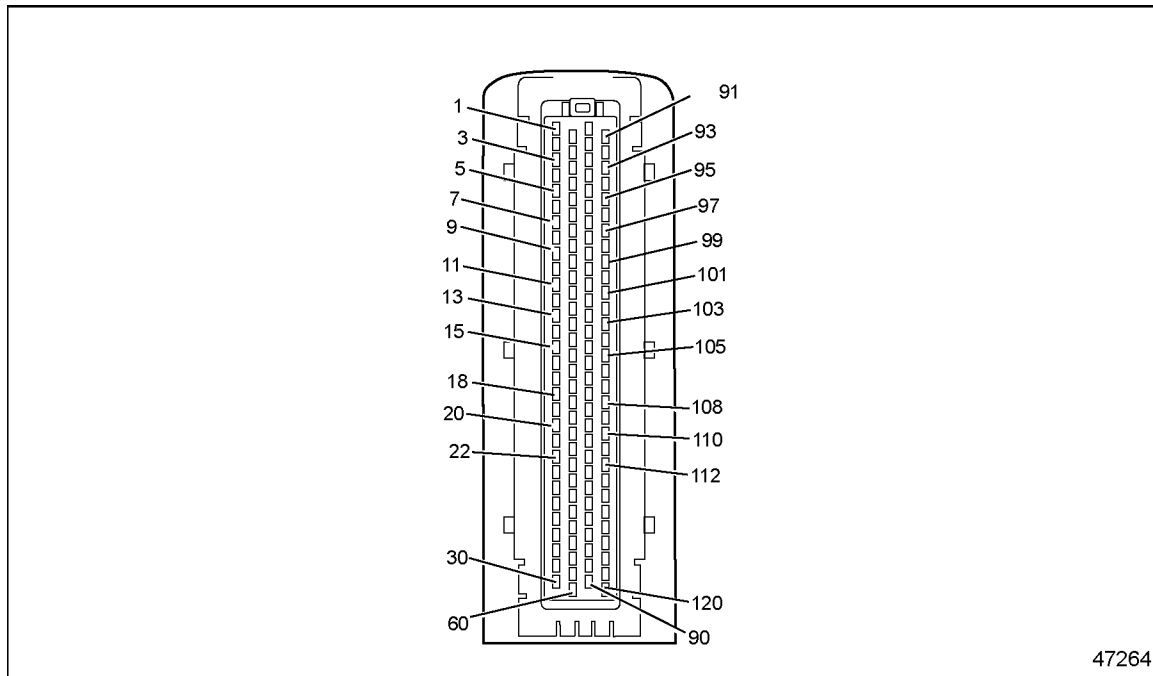

Figure 64-1 120-pin MCM Connector
- [a] If voltage is present, repair the short to power between pin 3 of the Rear Injector Harness 12-pin connector and pin 17 of the 120-pin MCM connector. See Figure 64-1. Refer to section 64.1.1.1.
- [a] If voltage is present, repair the short to power between pin 5 of the Rear Injector Harness 12-pin connector and pin 19 of the 120-pin MCM connector. See Figure 64-1. Refer to section 64.1.1.1.
- [a] If voltage is present, repair the short to power between pin 9 of the Rear Injector Harness 12-pin connector and pin 21 of the 120-pin MCM connector. See Figure 64-1. Refer to section 64.1.1.1.